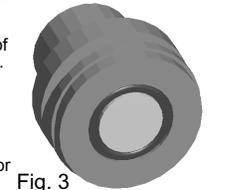

Fig. 3
4. Place the delay element stack on end, on a flat surface. Place the bulkhead over the stack and press down until the end of the delay element is flush with the bulkhead (Fig 3).